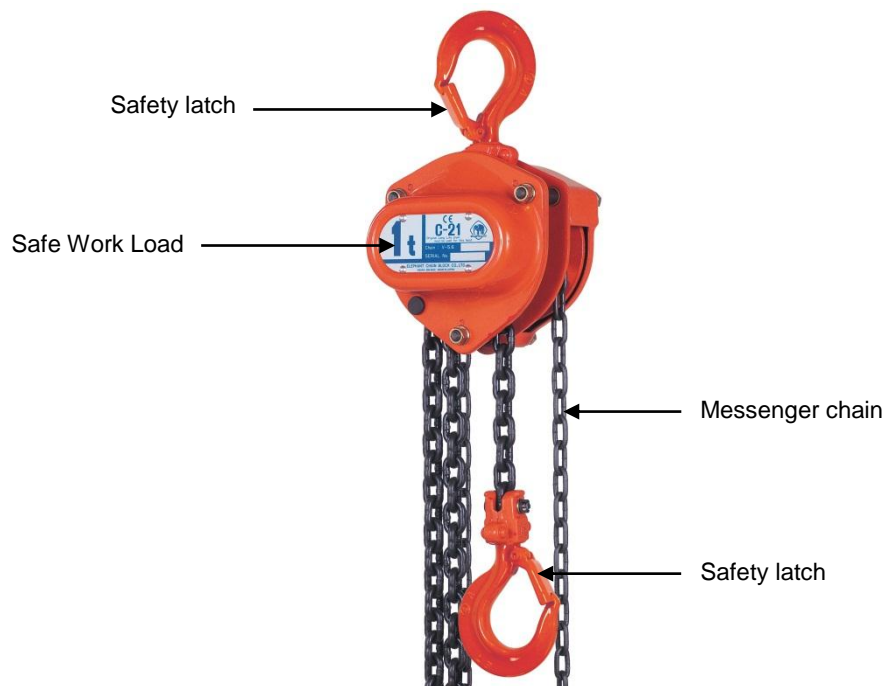

FIG 1.
- The hand chain block is normally portable. (Fig 1)
- The Safe Working Load (SWL) is normally indicated on the side of the block. (Fig 1)
- The hooks at both ends should be fitted with safety latches. (Fig 1)